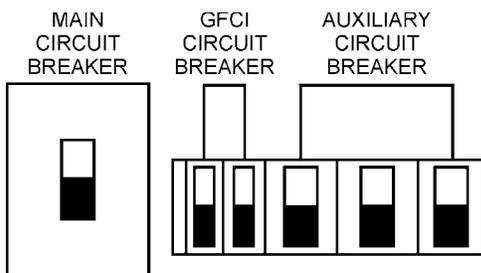

Figure 56. Main, GFCI and Load Circuit Breakers (OFF)
- Place both the **MAIN, GFCI and LOAD** circuit breakers as shown in Figure 56 to the **OFF** position.